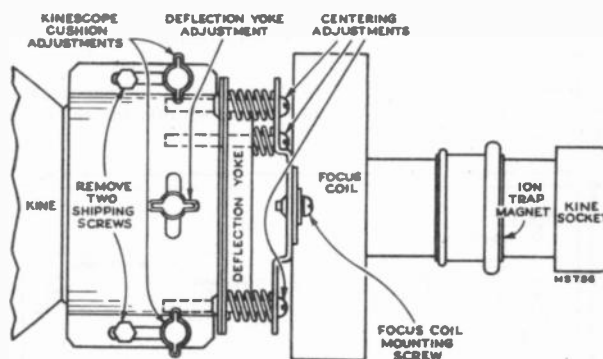

Figure 3—Yoke and Focus Coil Adjustments
Remove the two self-tapping screws from the kinescope-cushion slide as shown in Figure 3.
**CENTERING ADJUSTMENTS.**—Centering is obtained by adjustment of the centering controls and by mechanically orienting the focus coil with three adjustment screws shown in Figure 3. The focus coil should be concentric around the neck of the kinescope to prevent curvature of the raster.
**FOCUS COIL ADJUSTMENTS.**—If, after making the centering adjustments in the above paragraph, a corner of the picture is shadowed, it will be necessary to loosen the focus coil mounting screws (shown in Figure 3) and change the position of the coil to eliminate the shadow. Re-center the picture by adjustment of the electrical centering controls and the focus coil centering adjustments.